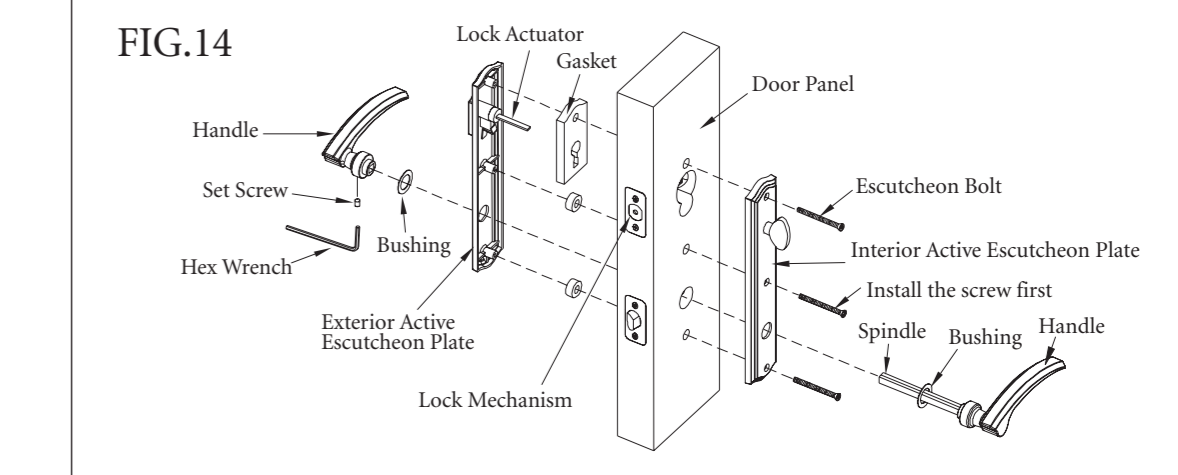

FIG.14
- Standard lock handle set. (See Fig.14)